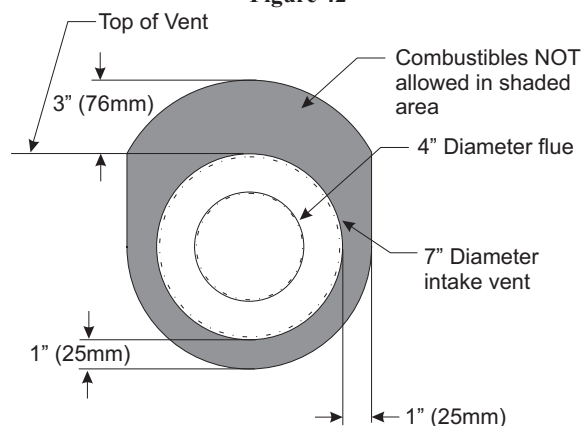

Figure 43
5. Install the Wall Firestop/Thimble assembly as required through the wall. Refer to the venting charts in the fireplace manual to determine the proper height and size of the vent opening. The minimum opening should be 9" wide by 11" high. The minimum combustible clearance from the horizontal vent is 1" from sides and bottom, and 3" above the vent pipe. **See Figure 43.**